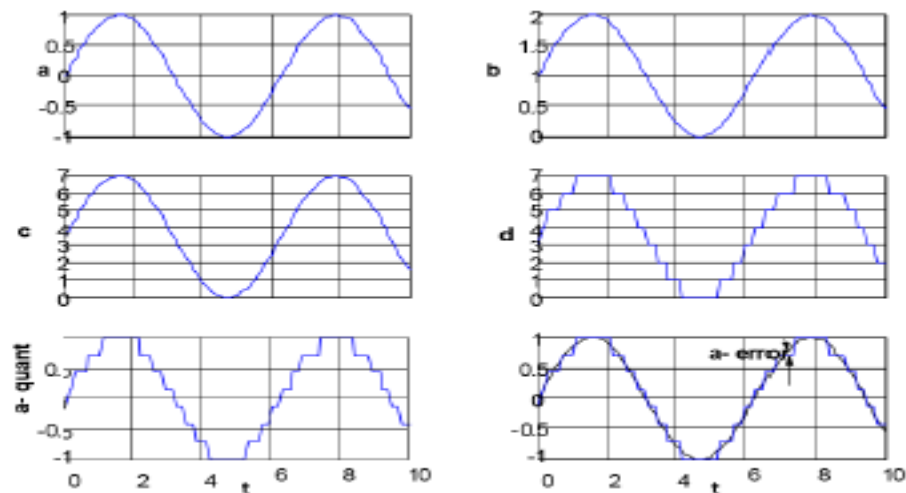

Figure 2.3 Steps of quantization in simulation
5. Calculate,  $a_{\max} = \max(\text{abs}(a))$ . See figure 2.3(a).
12. Plot your variables a, b, c, d, a\_quant and a\_error for quantization level 8. Show your plots exactly as shown in the Figure 2.3 in a single template. Use 'subplot' function for that.